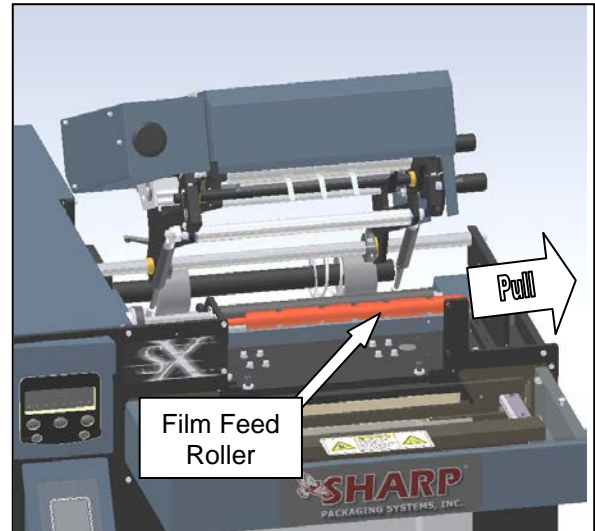

Figure 3-172. Removing the Film Feed Roller
- Remove the film feed roller (shown in Figure 3-172) by sliding it to the right, freeing it from the left bearing plate.